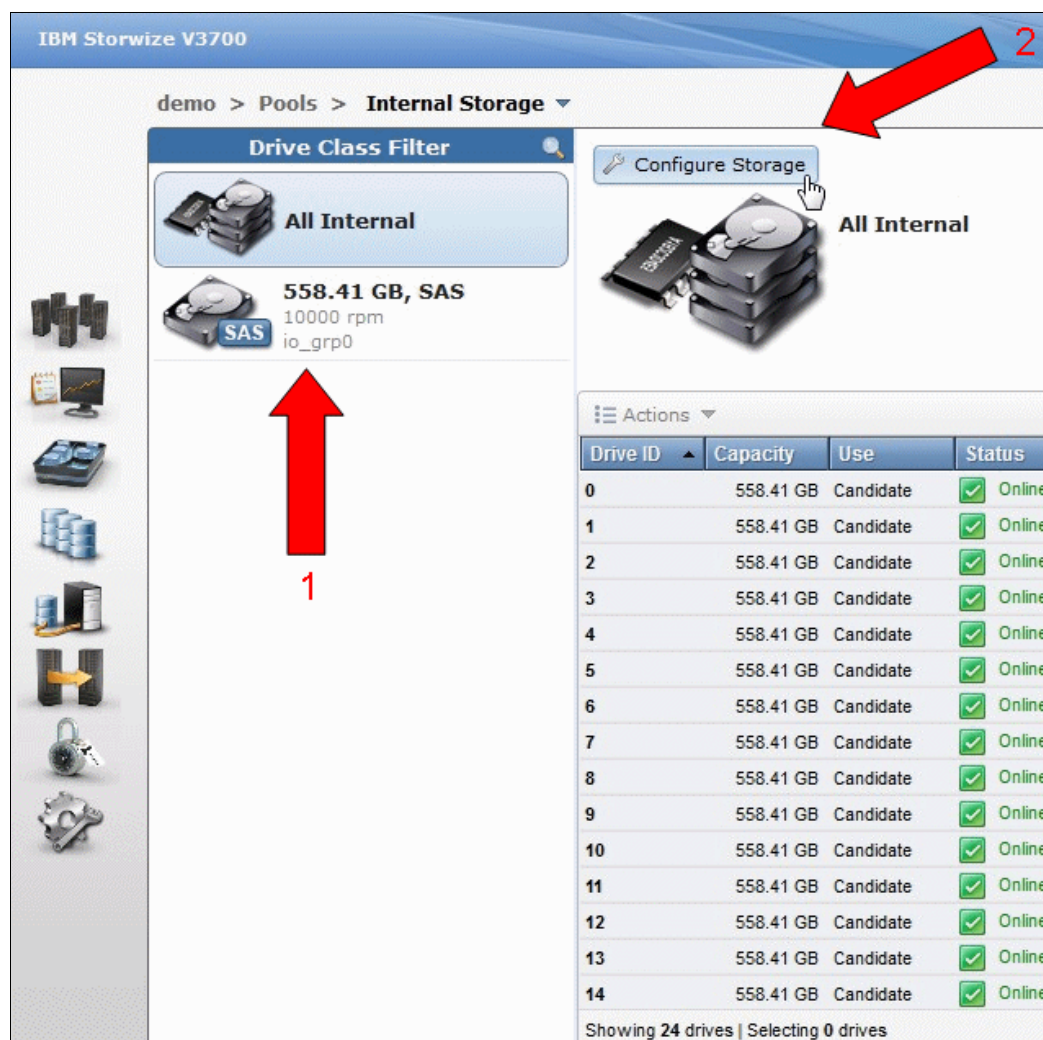

Figure 9-6 Configure Storage
2. To create an MDisk with internal disks for IBM Storwize V3700, click **Internal Storage** to display the list of candidate internal disks. Select the appropriate Drive Class that you want to configure, for example, SAS disks for metadata and NL_SAS (or SATA) for user data. Then, click **Configure Storage** (Figure 9-6).